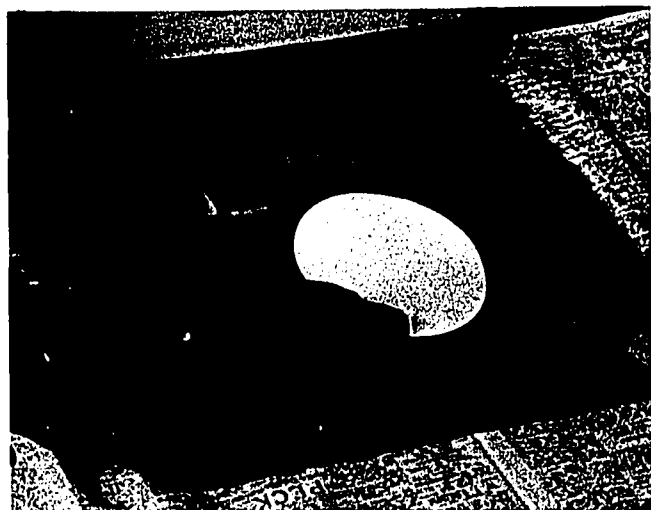

Fig. 61-1. Registering Sticker
2. Raise the screen. Place one sticker in the registered position. See Fig. 61-1. Lower the screen in place.